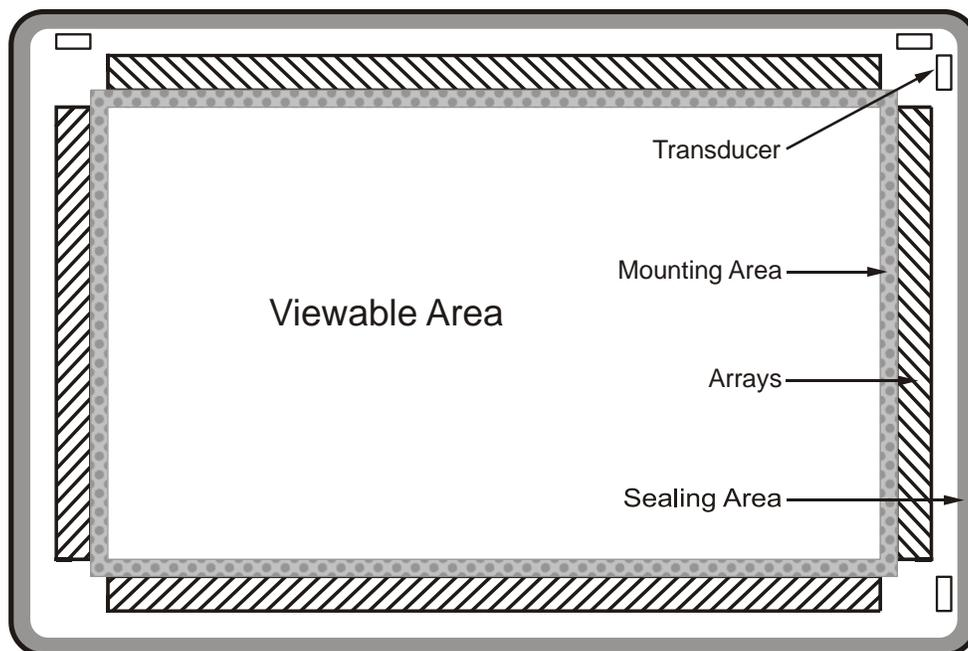

Figure 2-1. Important regions of the IntelliTouch Zero Bezel screen
- **ACTIVE AREA (AA):** The area of a screen which is responsive to touch.
- **ARRAYS:** Acoustically reflecting line segments that act as beam splitters and deflect surface acoustic waves into or out of the active area. The location of these arrays can be seen in Figure 2-1.
- **MOUNTING TAPE:** Double-sided tape used to attach the touchscreen to a surface. The mounting area of the tape is shown in Figure 2-1.
- **SEALING FOAM:** Foam applied around the edges of the touchscreen to keep spills or dust build-up from affecting the reflector arrays. The foam must be adhered to the rear housing or sub-bezel, not to the touchscreen. The allowable sealing area is shown in Figure 2-1.
- **VHB:** 3M® Very High Bonding pressure-sensitive adhesive (or equivalent). Touchscreen is delivered with tape attached in the Mounting Area as shown in Figure 2-1.